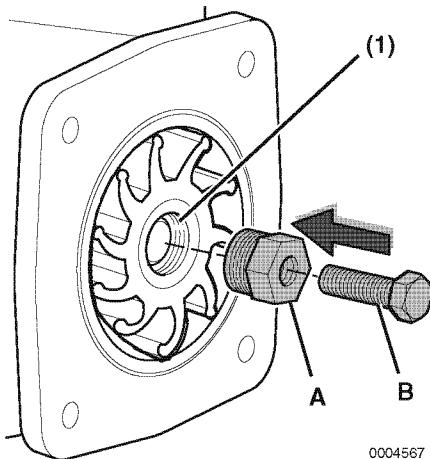
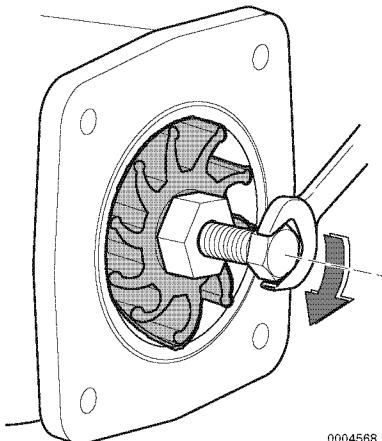

Figure 17
Figure 18
Note: When replacing a used impeller with a new one, the impeller must have an M18x1.5 thread (**Figure 17, (1)**). Turn the M18 screw side of the impeller to the cover side and install (**Figure 18**).